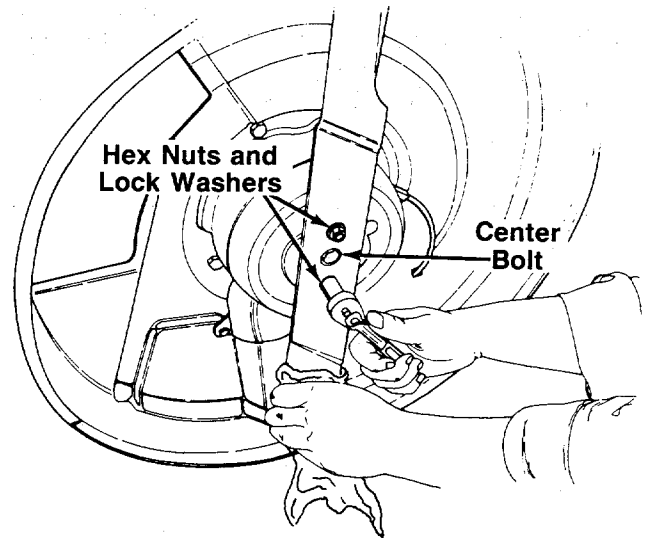

FIGURE 25.
To remove the cutting blade for sharpening or replacement, remove the two hex nuts and lock washers which hold the blade to the blade brake/clutch. Protect hands by using heavy gloves or a rag to grasp the cutting blade. See figure 25.
6. Remove the blade by removing two hex nuts and lock washers. Refer to figure 25.